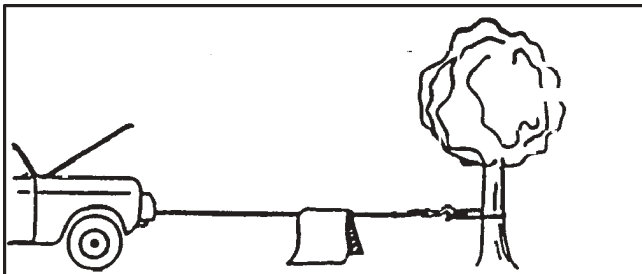

Figure 11-16. Using a cloth damper.
9. It is a good idea to lay a heavy blanket or jacket over the wire rope near the hook end when pulling heavy loads (Figure 11-16). If a wire rope failure should occur, the cloth will act as a damper and help prevent the rope from whipping.